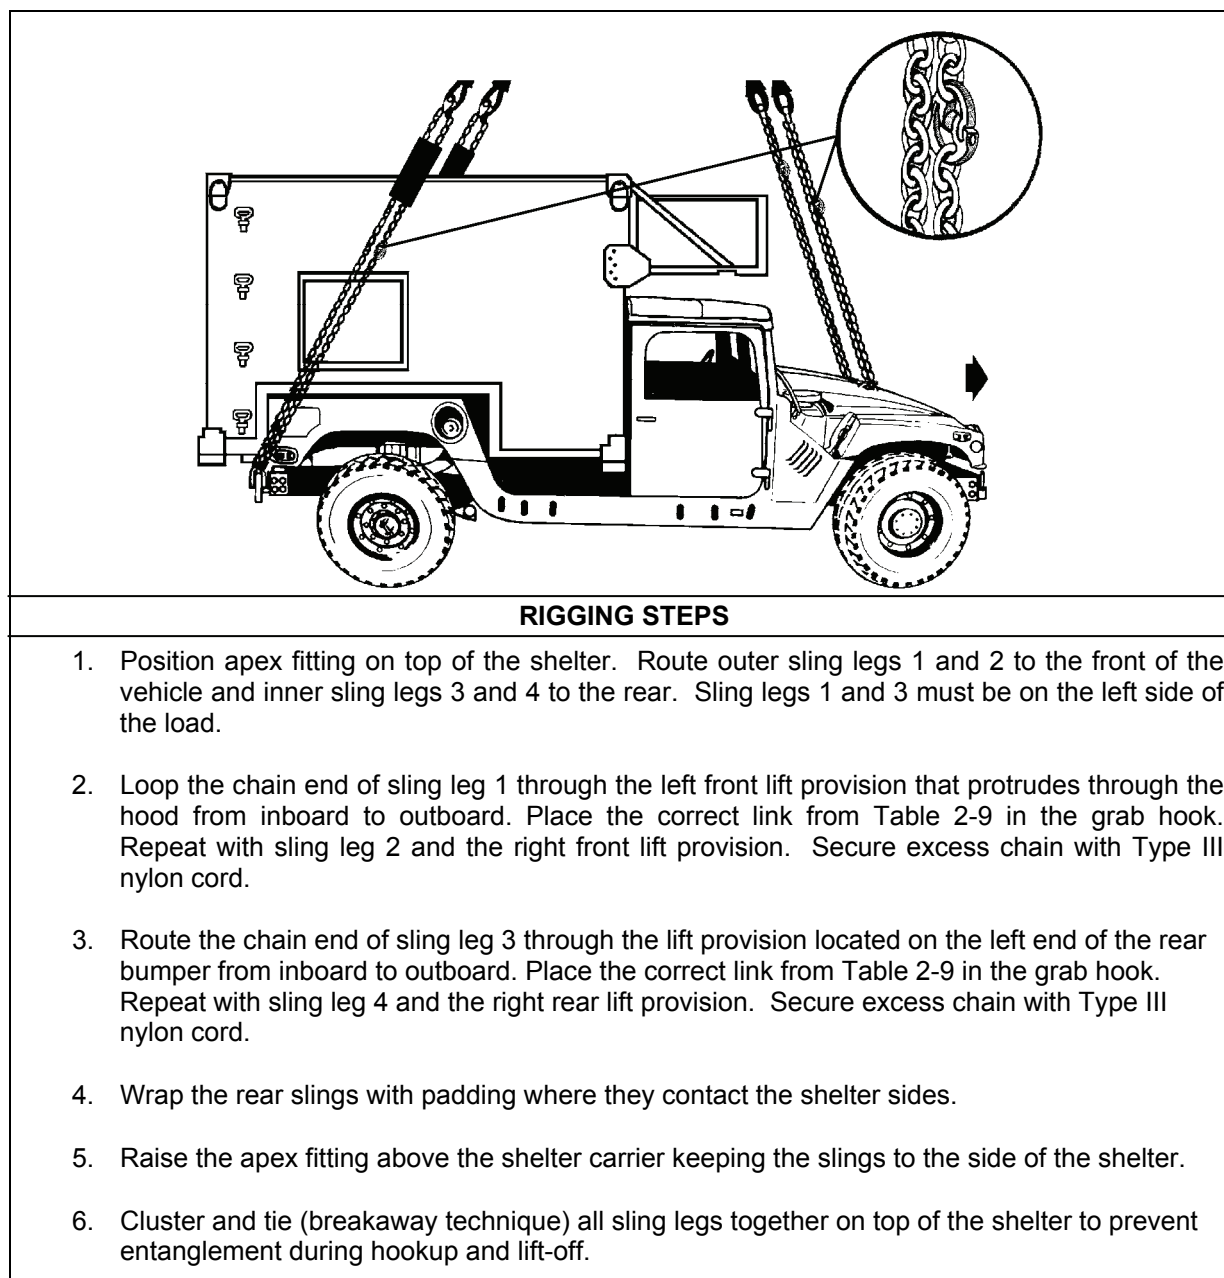

Figure 2-9. LMS Shelter Mounted on M1097/M1097A2
- **Rigging.** Rig the load according to the steps in Figure 2-9.